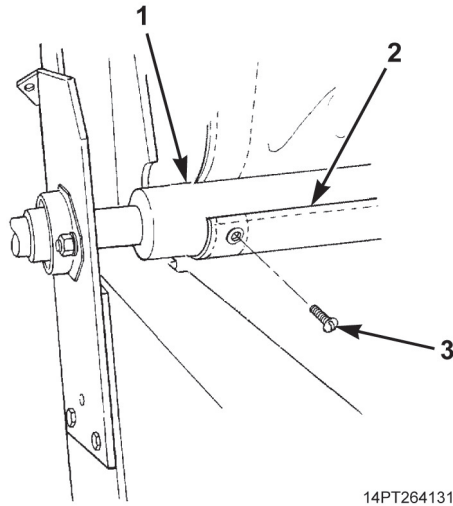

Figure 3. Cargo Cover Installation.
4. Pull cargo cover (Figure 3, Item 2) to roll-up bar (Figure 3, Item 1). Pass cover UNDER roll-up bar and secure to roll-up bar with six screws (Figure 3, Item 3).
5. Fully retract cargo cover (Figure 3, Item 2).